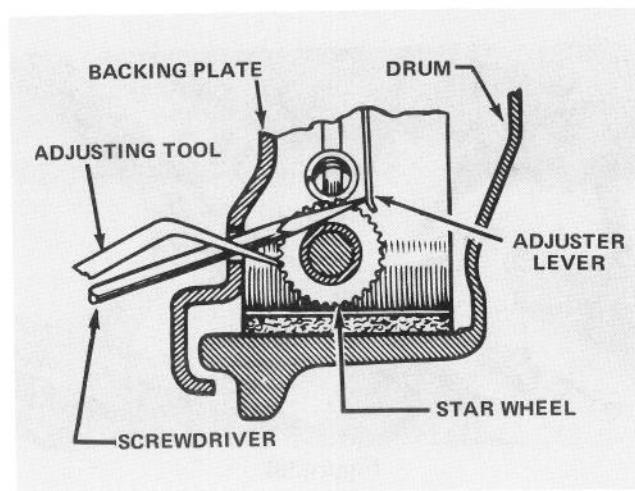

Figure 89
2. Remove wheel and drum. If shoes interfere with drum removal, hold adjuster lever away from star wheel (Fig. 89) while backing off adjustment.
Back off star wheel until drum is free of drag (20 to 30 notches). Use a screwdriver (Figure 89) to hold adjuster lever away from star wheel while backing off adjustment.